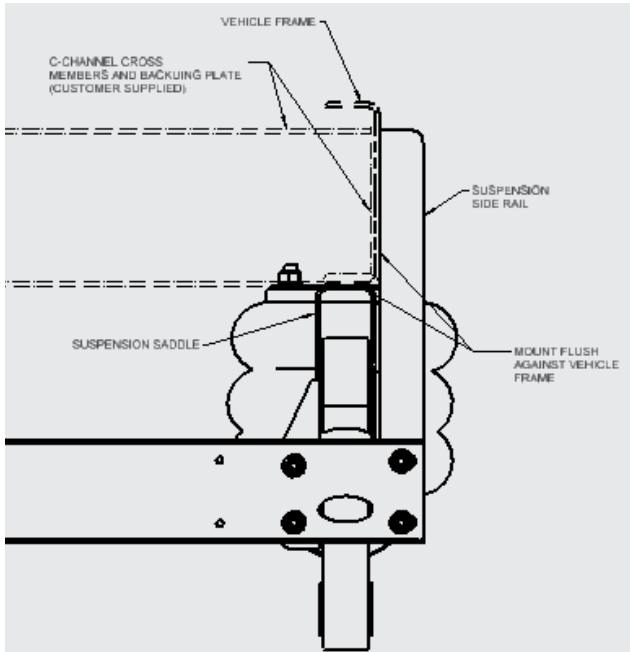

Figure 8. Suspension Mounting to Frame
**NOTE:** The entire auxiliary suspension mounting surfaces must be flush with both the side and bottom of the vehicle frame rails or spacers. Failure to do so will void the suspension warranty. (See Figure 8)